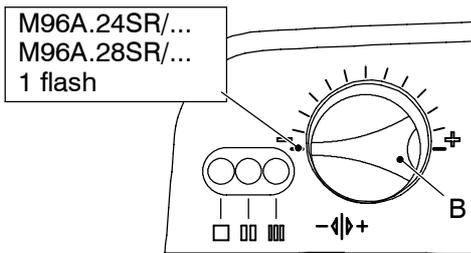

Fig. 10
At this step it is possible to visualize the current setting by keeping the reset button D pressed for more than 5 seconds. The lamps F will flash a number of times corresponding to the setting Fig. 10 (once for M96A.24SR/..., M96A.28SR/...).
- 12 To change the setting turn the knob B on a position corresponding to the boiler model (Fig. 10). By turning the knob B, the lock-out signal lamp E blinks quickly (2 per seconds) indicating that the setting has changed and must be memorised.